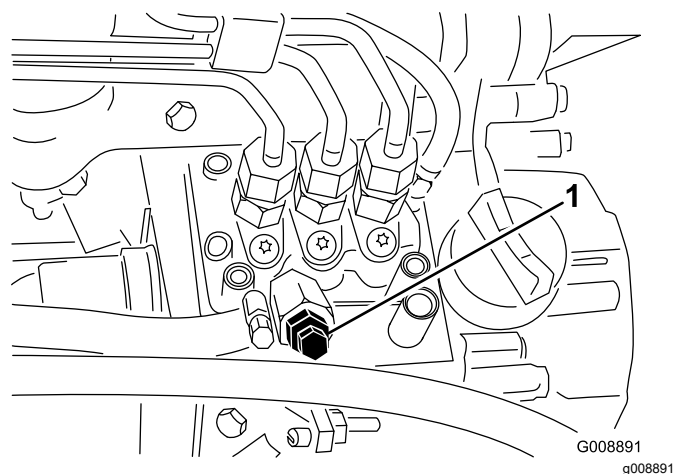

Figure 45
4. Open the air-bleed screw on the fuel-injection pump (Figure 45).